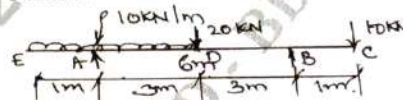

Fig.Q.6(b)
- b. Draw shear force and bending moment diagrams for the beam shown in the Fig.Q.6(b). Locate the points of contra flexure. (10 Marks)